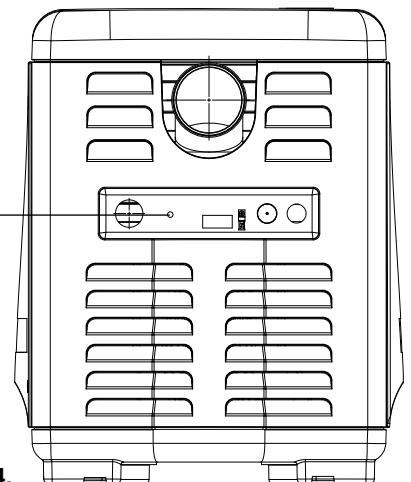

Figure 34.
2. Locate the small hole in the exhaust panel, for the RS-485 cable. Use an appropriate size drill bit for the flexible conduit or strain relief to be used in the exhaust panel to drill a hole for the RS-485 wires. **See Figure 34.**